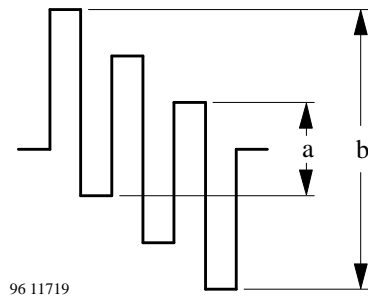

Figure 4. V_{LIN}
3. Defined as $V_{LIN} = b / a$ (see figure 4).